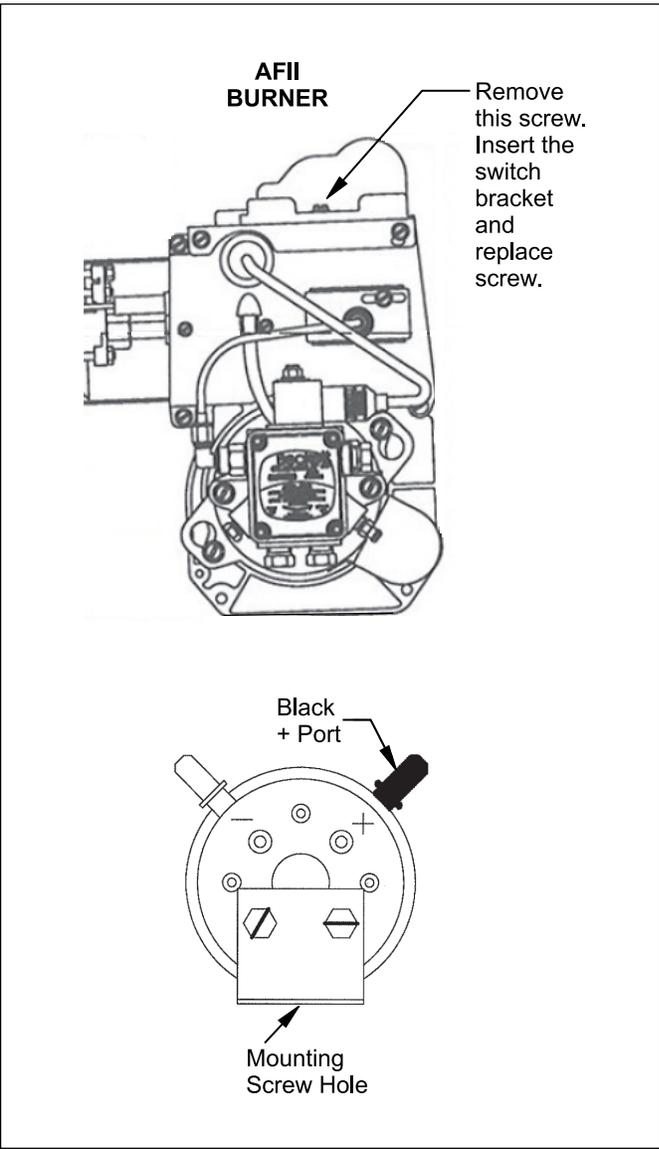

Figure 2.
9. Connect one end of the silicone tube, P/N Q0078800, to the Blocked Flue Switch + (black) port as shown in Figure 2.